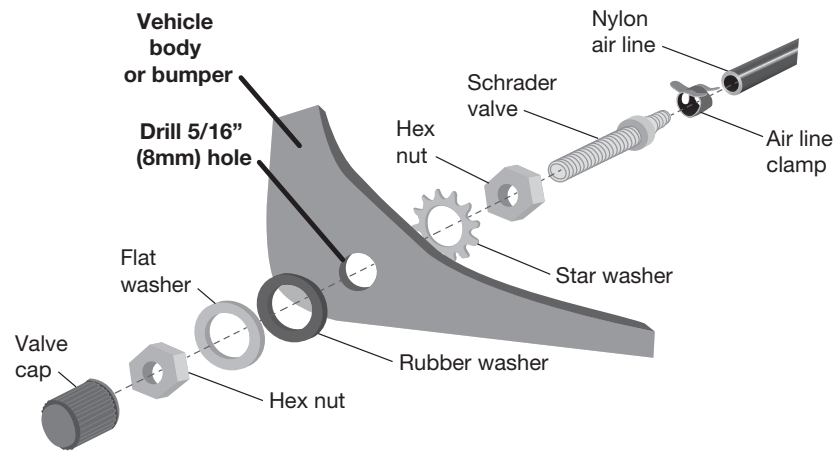

Fig. 17
6. Drill a 5/16" (8mm) hole for the Schrader valve (K) and mount as shown (Fig. 17). Install the air line on the Schrader valve first. The rubber washer (G) serves as an outside weather seal.